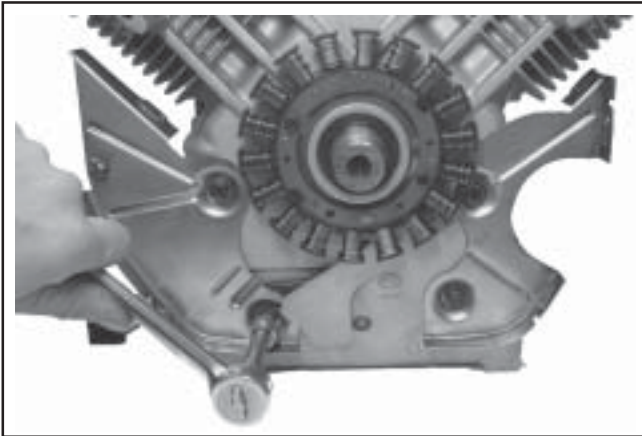

Figure 9-53. Removing Backing Plates and Stator Wire Bracket.
1. Remove the four screws securing the backing plates and stator wire bracket (if so equipped). See Figure 9-53. Remove the backing plates and stator wire bracket.